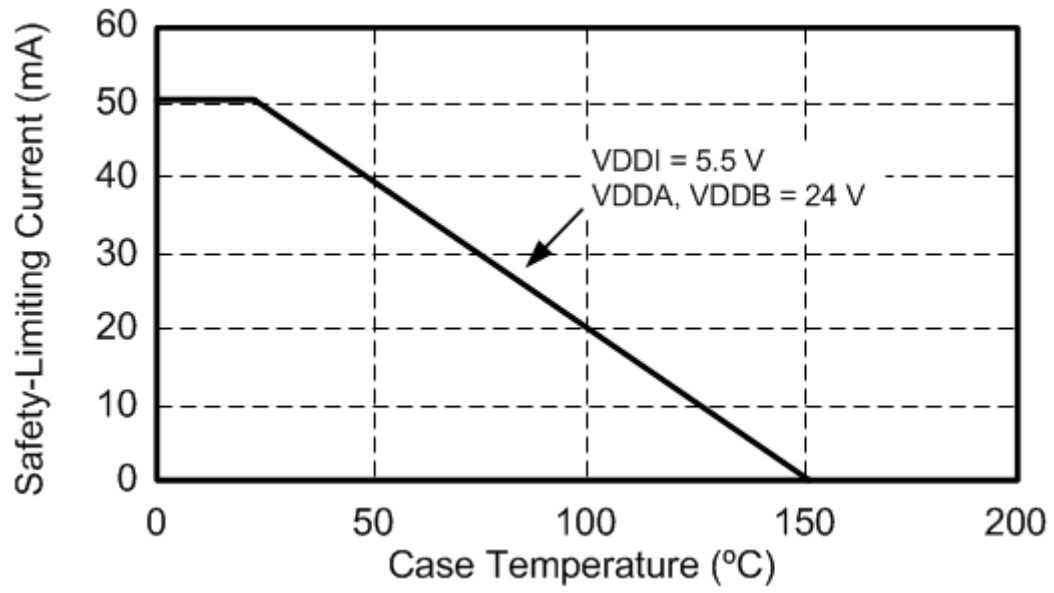

Figure 4.4. WB SOIC-16, NB SOIC-16 Thermal Derating Curve, Dependence of Safety Limiting Values with Case Temperature per VDE 0884-10
1. Maximum value allowed in the event of a failure. Refer to the thermal derating curve in [Figure 4.4 WB SOIC-16, NB SOIC-16 Thermal Derating Curve, Dependence of Safety Limiting Values with Case Temperature per VDE 0884-10](#) on page 24.